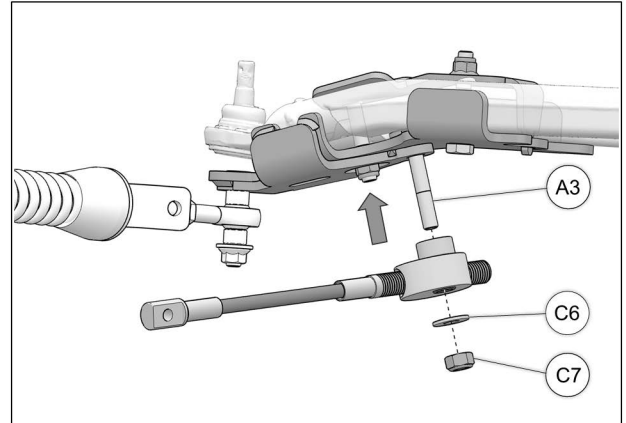

Fig. 23
15. Slip steering limiter cable assembly over M10x65mm bolt (A3) previously installed in step 5. Use supplied washer (C6) and nut (C7) to secure steering limiter assembly in place. Tighten nut to 50 Nm [37 lb•ft]. Refer to Fig. 23